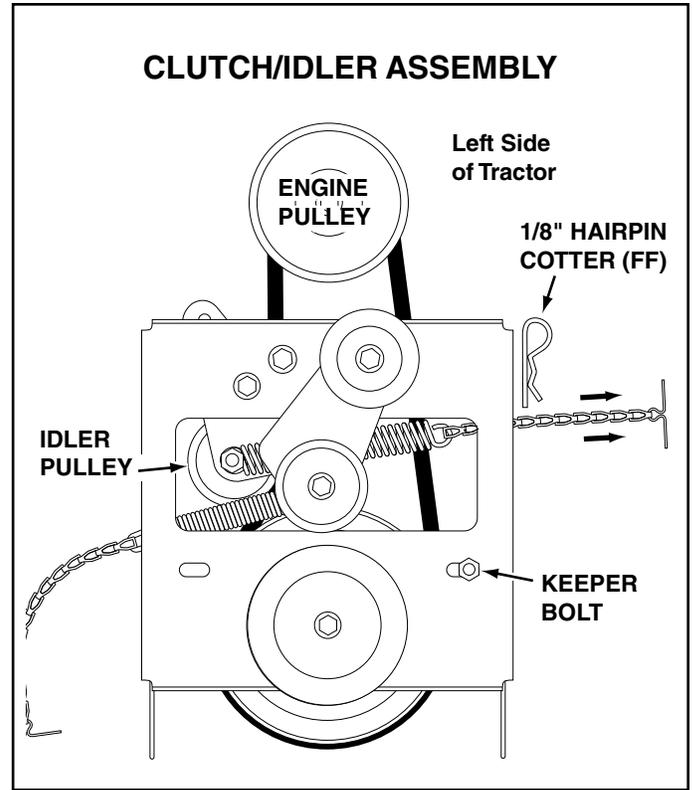

FIGURE 46
STEP 47: (SEE FIGURE 46)
- Place tension on the belt by pulling the left side tensioning chain out as far as the 3/32" hairpin cotter will allow. Secure the chain in this position by inserting a 1/8" hairpin cotter (FF) through the chain.